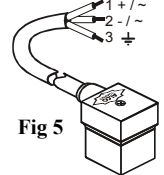

Fig 5
- Connect plug of Cable Assembly (Fig. 5) to the coil and tighten screw with 0,1Nm.
**Wiring With Cable Assembly (Fig. 5)**